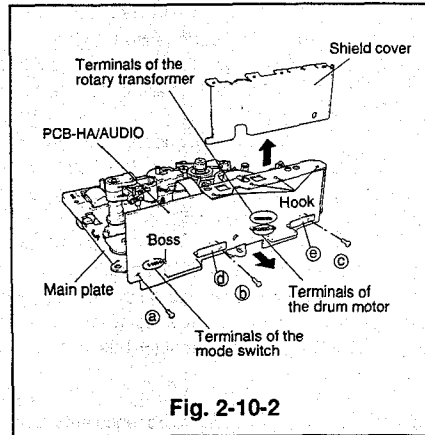

Fig. 2-10-2
- ② Unsolder the soldered pins on the terminal of the drum assembly and the terminal of the rotary transformer. (Refer to Fig. 2-10-2)
- ③ Unscrew the three screws (a, b and c) on the reverse side of the deck and remove the drum assembly.
- ③ Solder the pins of the drum assembly and the rotary transformer. (Refer to Fig. 2-10-2.)
- ④ Install the cassette housing.